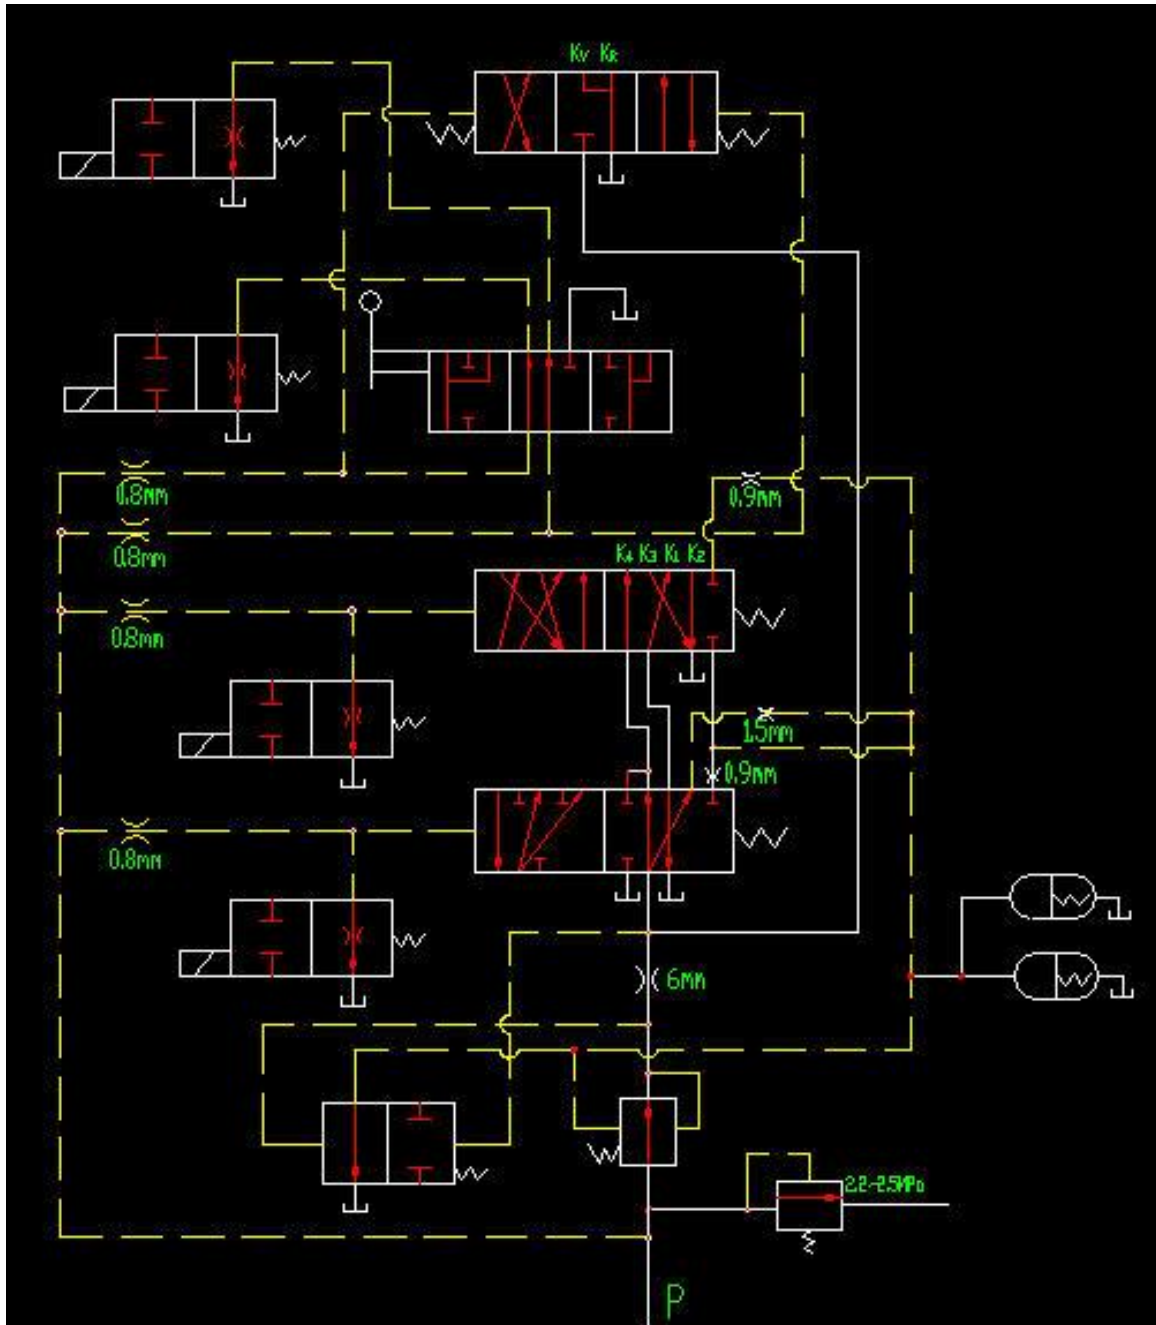

Fig. 2.3 The principle diagram of the transmission box's hydraulic system
2.4 The principle diagram of the transmission box's hydraulic system (refer to the fig. 2.3)